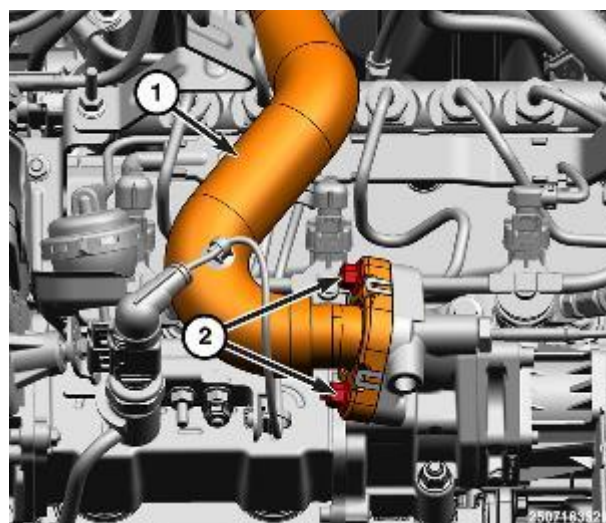

Figure 109 – Lower EGR Tube
26. Remove the lower EGR tube bolts (2) and the EGR tube (1) (Figure 109).